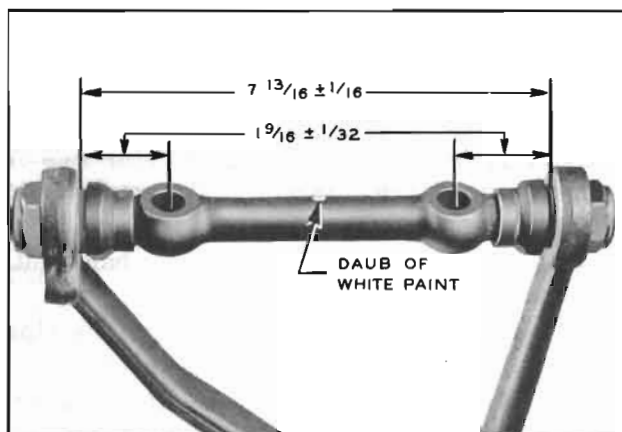

Figure 7-11—Upper control Shaft Dimensions
6. Install rubber dust seals on shaft and screw shaft into forward arm to  $1\frac{9}{16}$ " ( $\pm\frac{1}{32}$ ") dimension shown in Figure 7-6. Thread rear arm onto shaft to the  $7\frac{13}{16}$ " ( $\pm\frac{1}{16}$ ") dimension. See Figure 7-11.